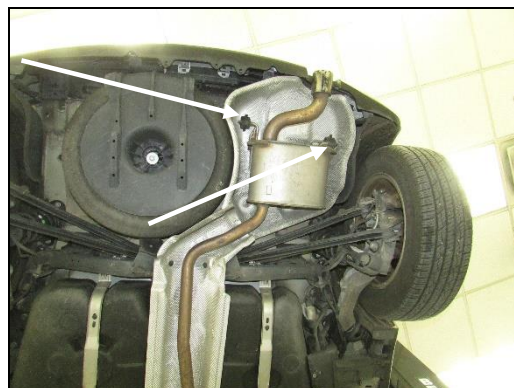

Figure 4
- Go to the OE muffler remove (x2) hangers and remove the OE cat back exhaust (Figure 4).